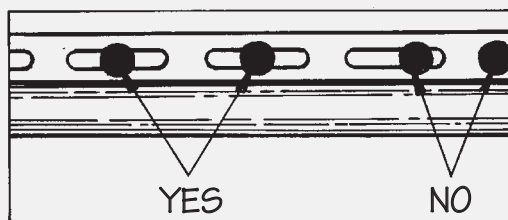

Figure 17.
- Center the fasteners in the slots to permit expansion and contraction of the siding (Fig. 17).